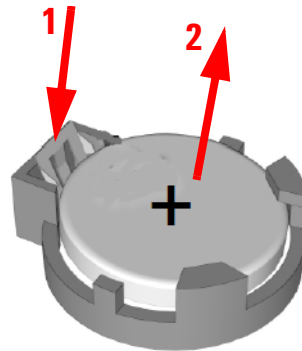

Figure 33 Replacing the Battery
- 5 Remove the battery (see Figure 33 below). Press the battery release latch (1). The battery should pop out (2).